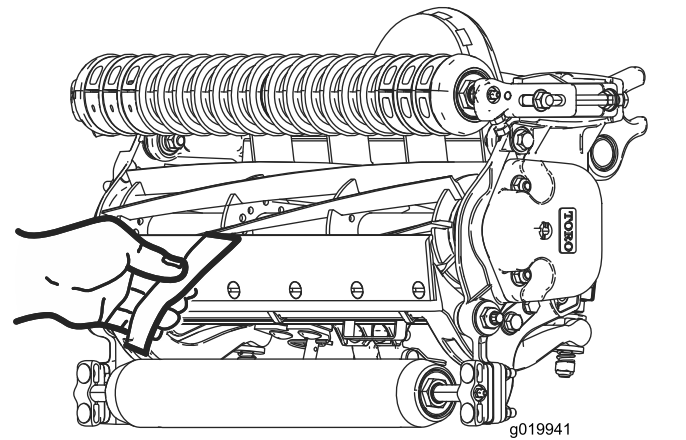

Figure 18
10. Test the cutting performance by inserting a long strip of cutting performance paper (Toro part number 125-5610) between reel and bedknife, perpendicular to the bedknife (Figure 18). **Slowly** rotate the reel forward; it should cut the paper.